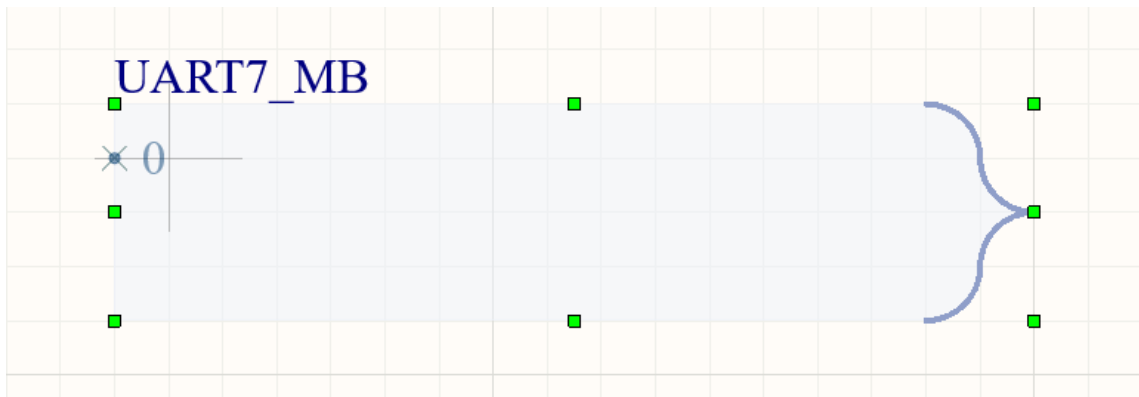

Figure 7. Place Harness Entry inside Harness Connector
- a) Move your cursor to the inside of the Harness Connector as shown in Figure 7.
- e) Left-click to place the Harness Entry inside the Harness Connector in the same spot as Figure 7.